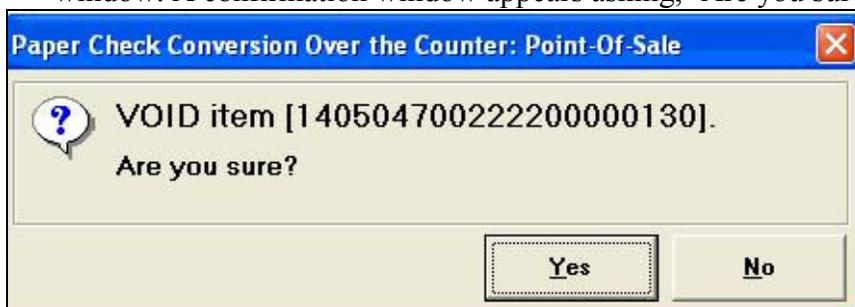

Figure 6.50
- Click to highlight the item that needs to be voided then click the **‘Void’** button at the bottom of the window. A confirmation window appears asking, ‘Are you sure?’ (Figure 6.50)